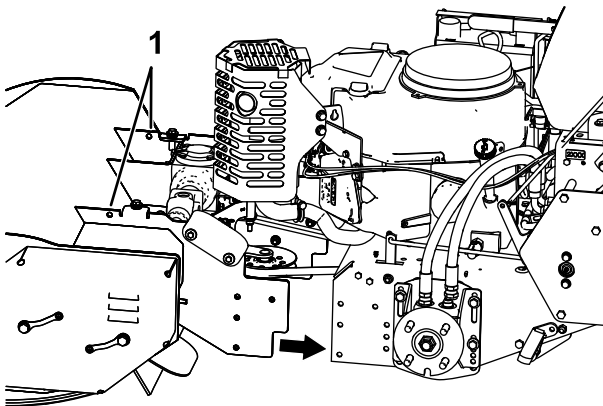

Figure 3
7. Remove the top cover on the flail and the PTO engagement linkage rod before lifting and moving the flail into position against the power unit (Figure 3).